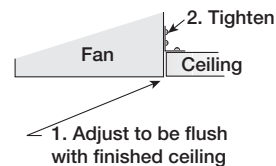

Figure 5 — Adjusting Mounting Brackets
4. For wood frame construction, position unit between joists. Position brackets such that bottom edge of housing will be flush with finished ceiling, and tighten the adjustable mounting brackets, shown in Figure 5.